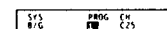

Fig. 5.
- Select the second element of the double-digit number with  $\Delta$  or  $\nabla$  or the number buttons (e.g. For "04", select "4" here) (See Fig. 5.) and press OK.